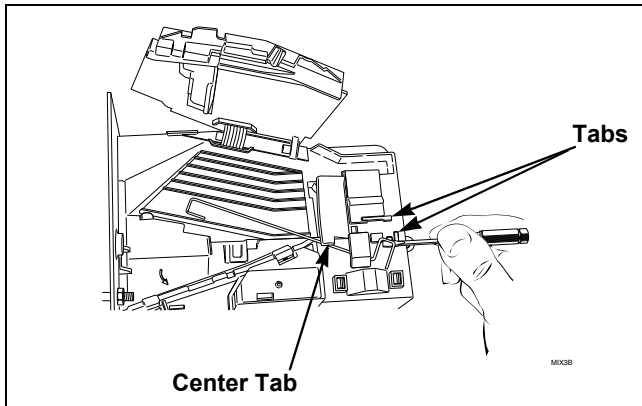
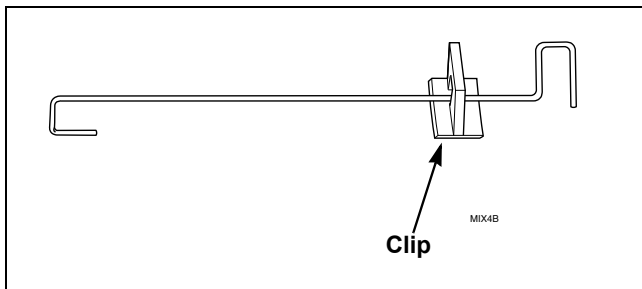

Figure 6
Figure 7
- (6) Rotate spring clockwise, 40 to 60 degrees, until it is free from right tabs. Refer to *Figure 6*.
- (7) Use screwdriver to remove spring from center tab. Refer to *Figure 6*.
- (8) Lift spring, with attached clip, off drop.
- (9) Remove clip from spring. Refer to *Figure 7*.